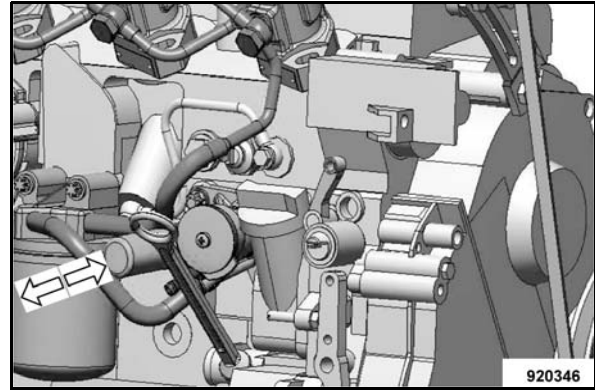

Fig. 149
- For bleeding operate the hand pump (Fig. 149) until strong resistance can be felt and pressure has built up.